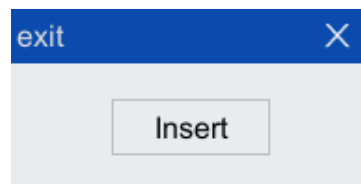

Figure 5-41 The "exit" instruction configuration interface
Step1.Click "Insert Cmd> Process Control> exit" option in the toolbar of the program editor to pop up "exit" instruction interface, as shown in Figure 5-41.